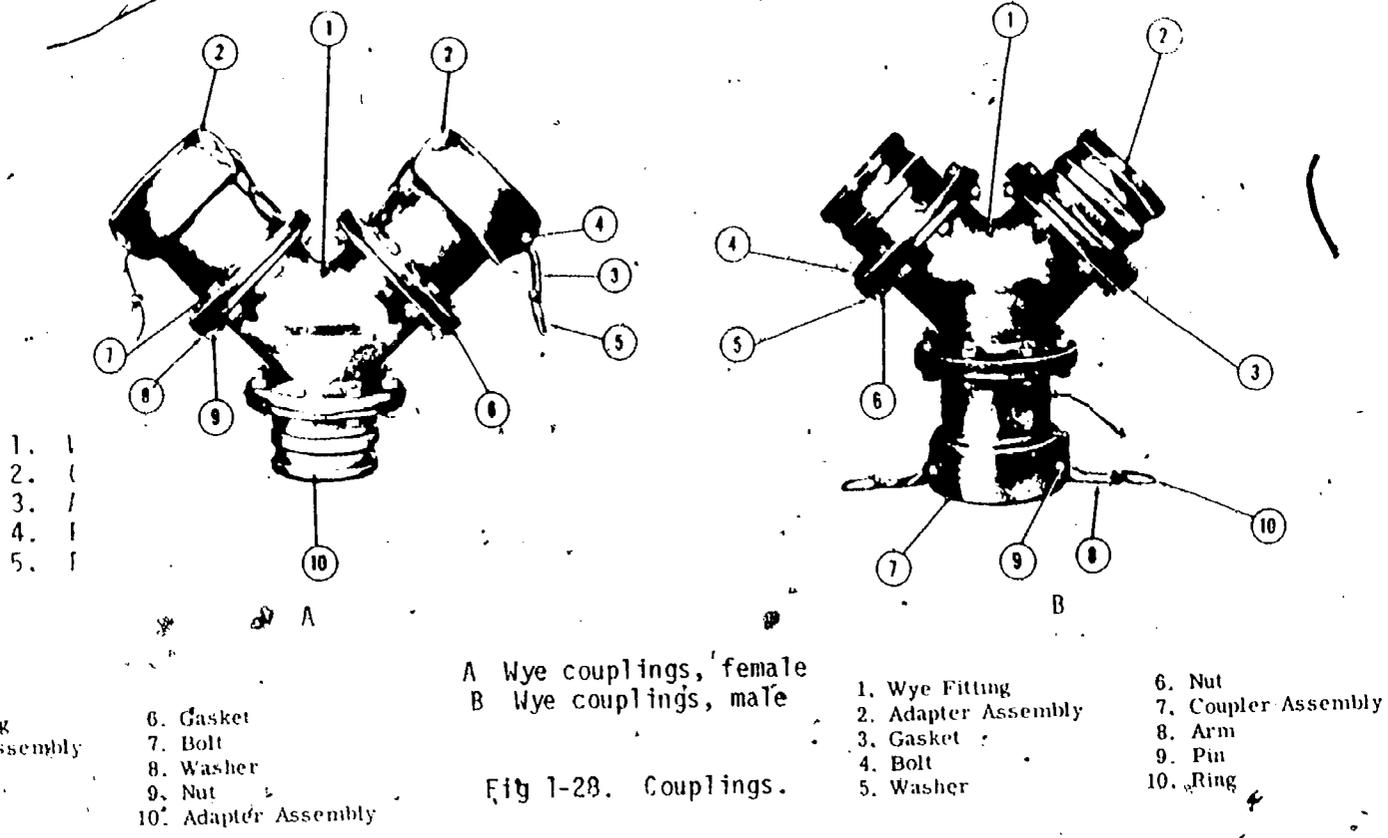

Fig 1-28. Couplings.
c. Wye couplings (fig 1-28). These couplings are used as facilitating connections between the suction and discharge hose transfer lines.